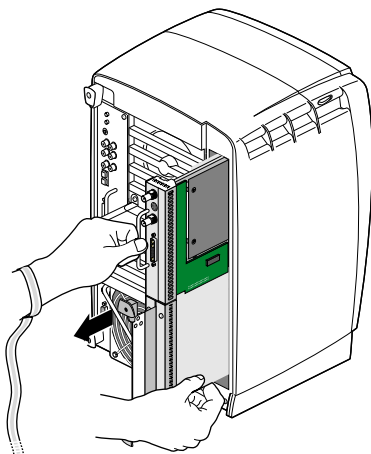

Figure 12 Removing the XIO Tri-Module
3. Grasp the XIO Tri-Module by the immovable handle, and support the base of the module as you remove it from the chassis, as shown in Figure 12.